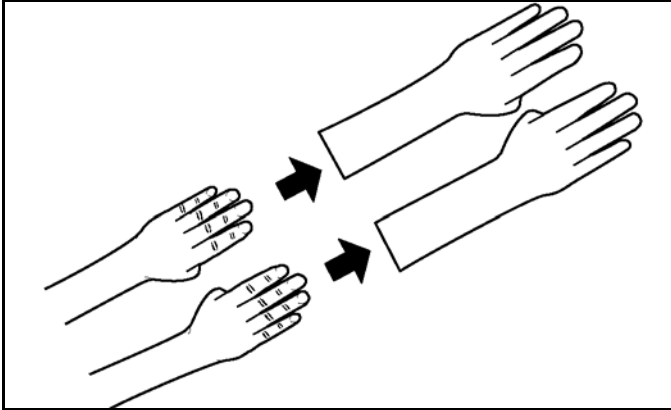

Figure-175
6. Put on heat-resistant gloves. See Figure-175.